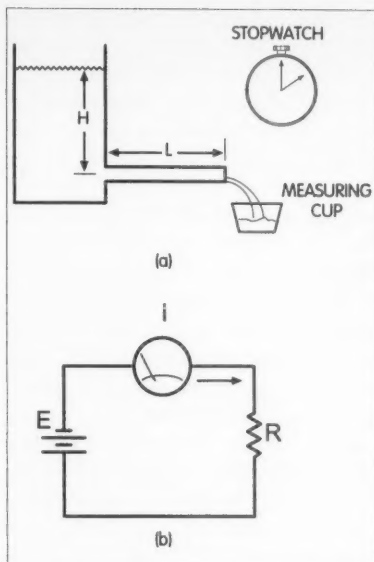

Fig. 1. (a) Ohm's law analogy. (b) Ohm's law in a circuit.
For a physical analogy, consider the illustration in **Fig. 1(a)**. We have a
container filled with water, a soda straw attached to let the water out, and a container to catch the water. The height of the water above the soda straw (H) is analogous to the battery voltage (E) in Fig. 1(b). The length of the soda straw (L) is analogous to the resistance (R) in the electrical circuit. With the measuring cup and the stopwatch we can measure the time it takes to fill the cup, thus giving us the water
In Fig. 1, the analogy for the ampere was chosen to represent a flow rate